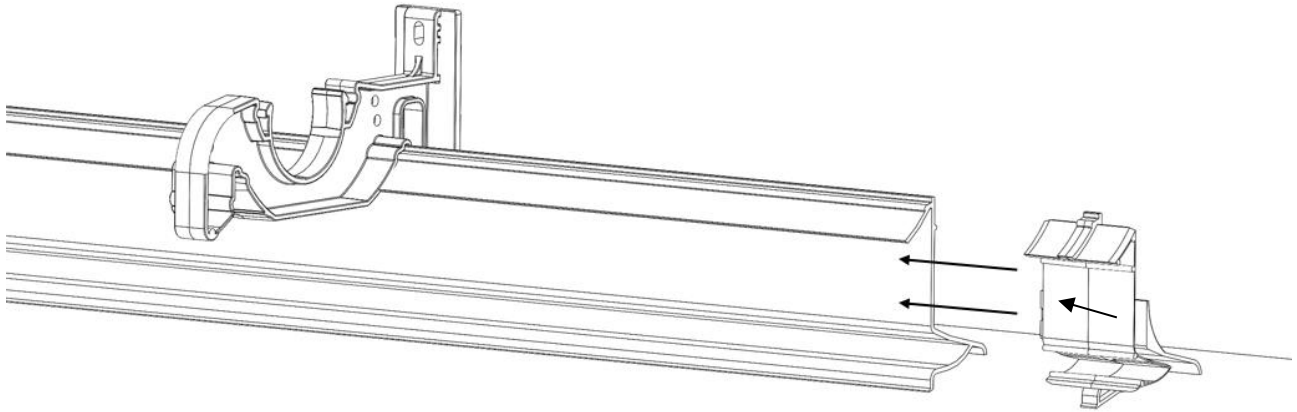

Figure 20
On each Pad Guide [ref. 9] insert the Pad Guide Coupler [ref. 10] to join the Pad Guides together. See Figure 20.